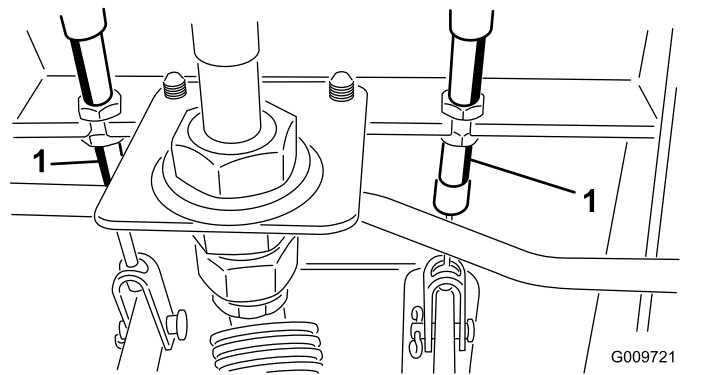

Figure 119
- A. Loosen the front nut on the threaded end of the brake cable (Figure 119).